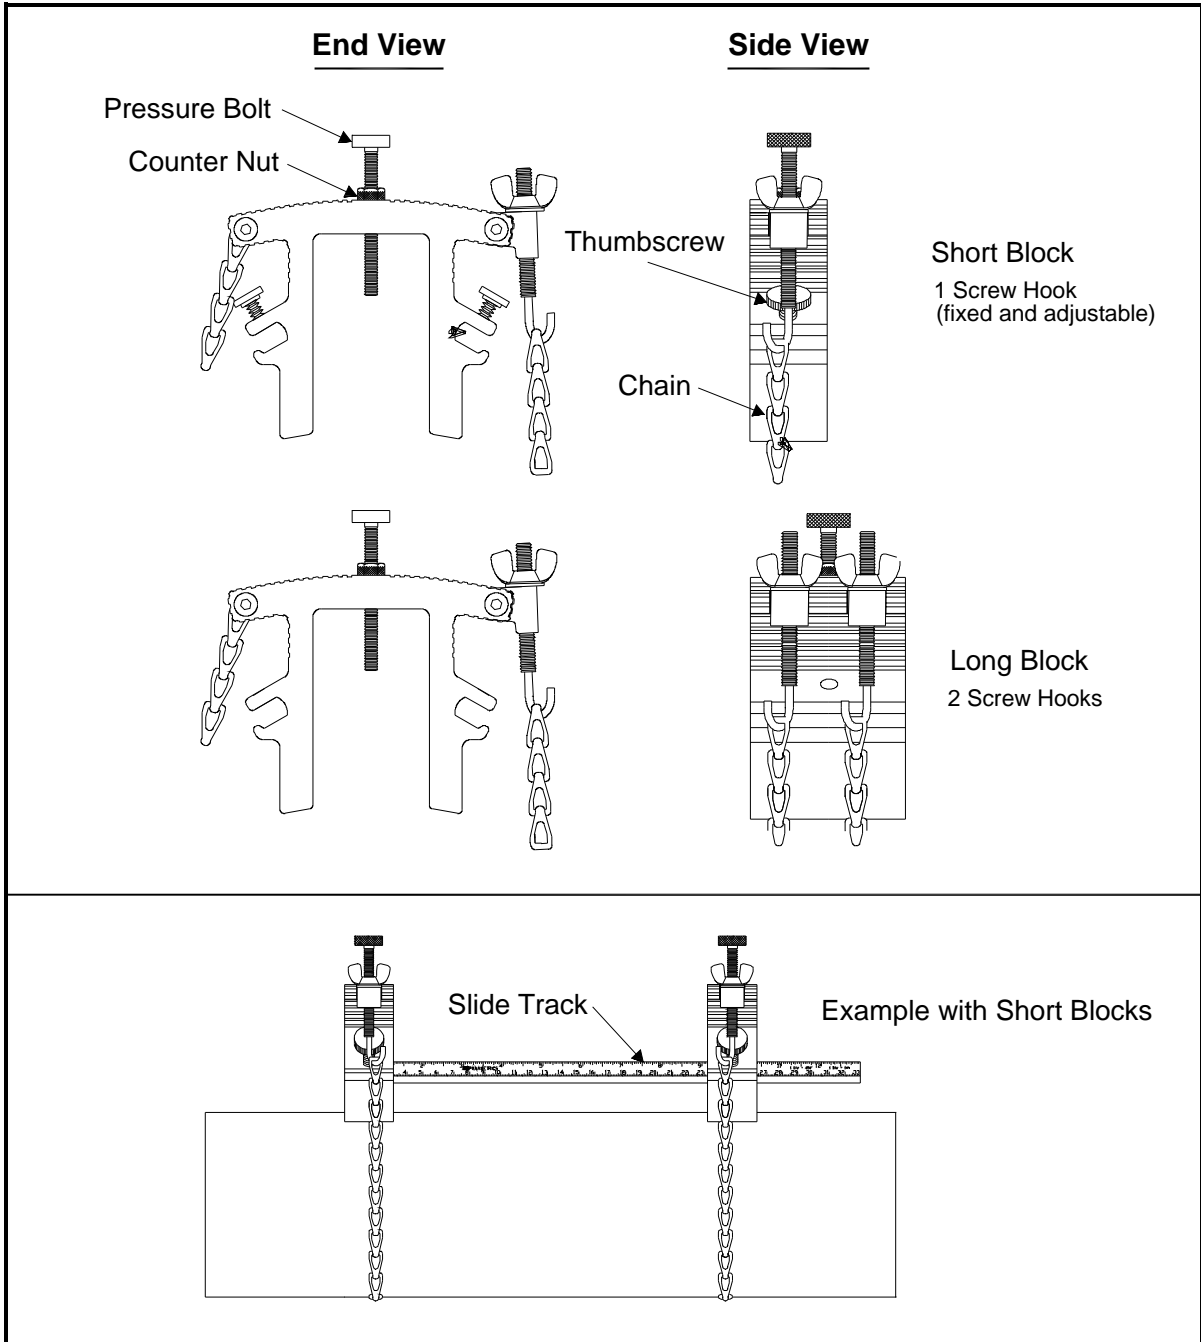

Figure 3: Components of the UCF
The blocks are used to hold the transducers in position for accurate measurement. The UCF is chained or strapped around the pipe. The blocks are positioned using the spacing dimension calculated by the flowmeter. Then the transducers are mounted into the blocks. Figure 3 on page 7 shows the short and long blocks.
6. Tighten the counter nut on the pressure bolt (see Figure 3 on page 7).